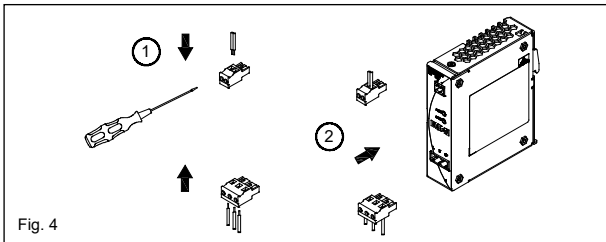

Fig. 4
Caution: Must tighten wire to plug (Fig. 4 (1)) before plugging into the terminal block connection (Fig. 4 (2)). In accordance to EN 60950 and EN 62368, flexible cables require ferrules. Use appropriate copper cables that are designed to sustain operating temperature of 60°C / 75°C or more to fulfill UL requirements.